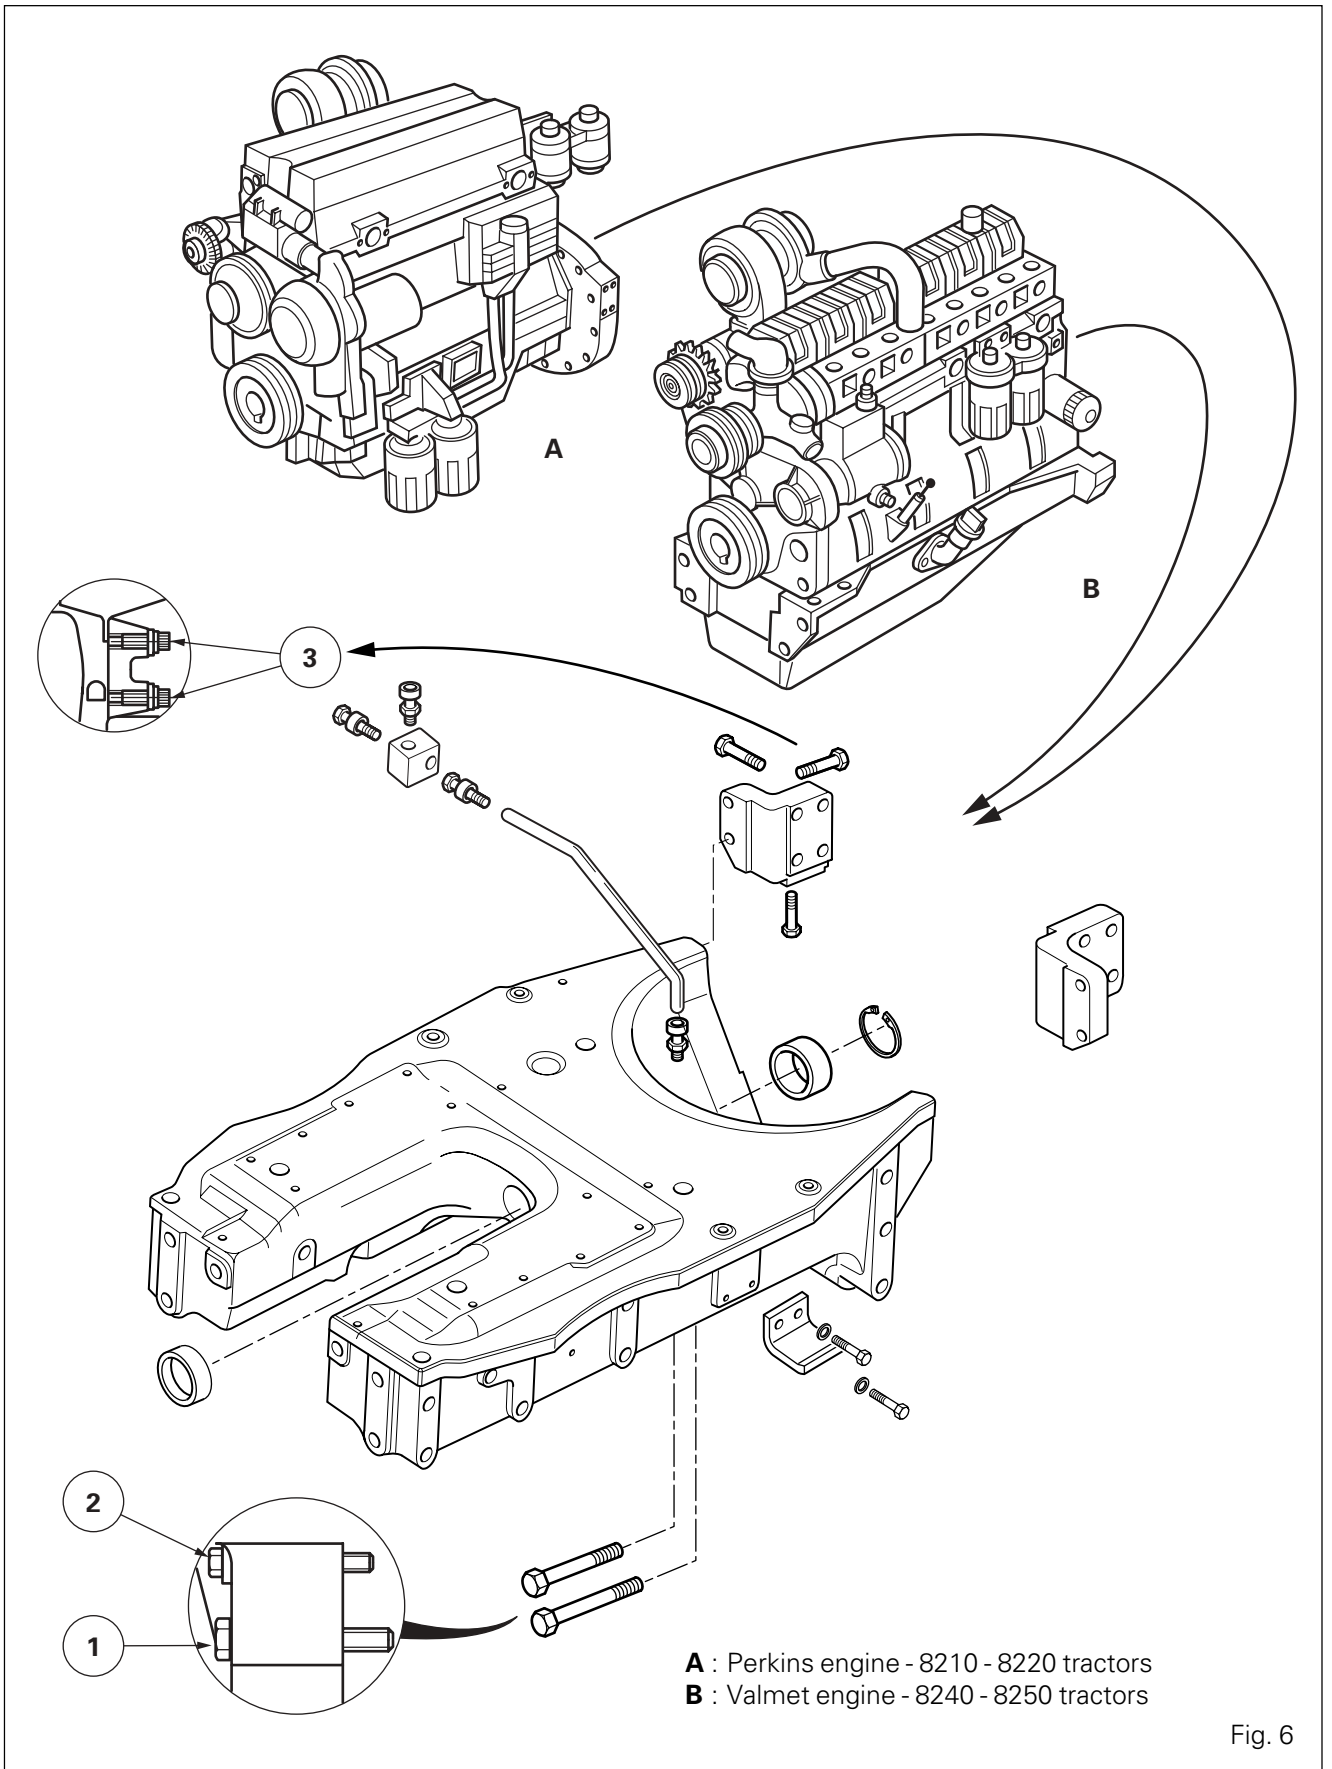

Fig. 6
53. Remove a screw **(3)** (Fig. 6 - 8) from each square at the front of the engine, replacing it by a long guide stud of sufficient length.
56. Finish removing the other attachment screws **(1)** **(2)** **(3)** (Fig. 6 - 8) from the engine frame.